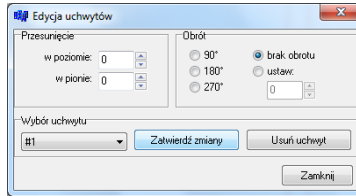

Fig. 154 - Handle edition dialogue box
- From this level it is possible also to edit handles, to make it happen simply press **Handles** button in the window above and consecutive dialogue will appear (Fig. 154).